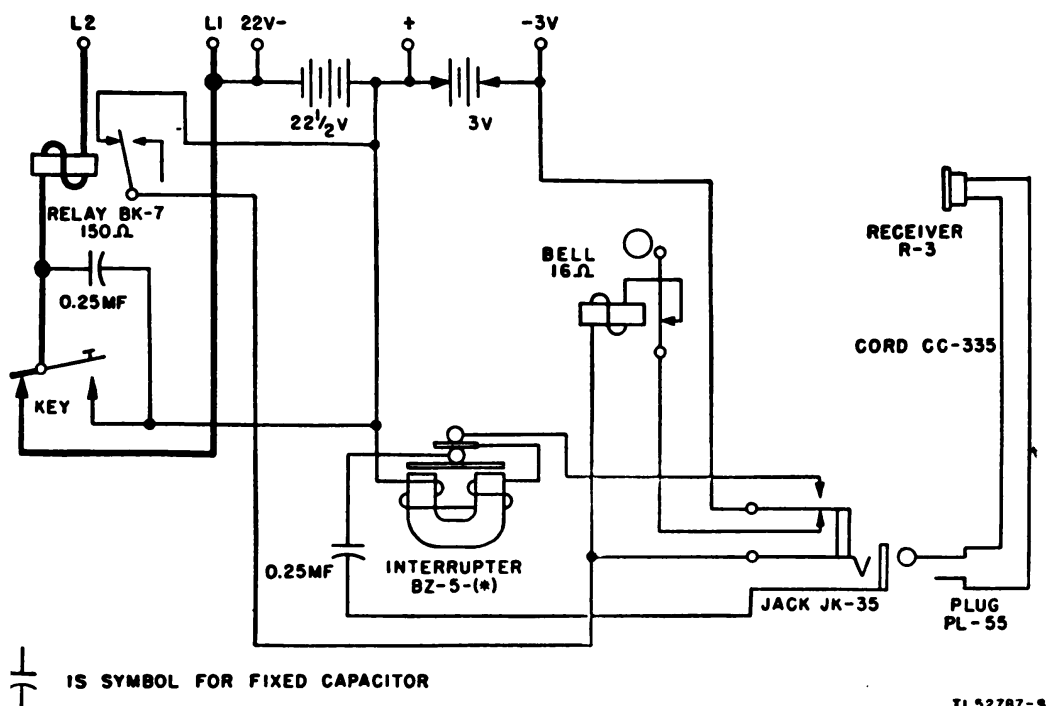

Figure 22. Line circuit, Telegraph Set TG-5.
a. LINE CIRCUIT. (1) The L2 binding post, relay winding, key, and L1 binding post are connected in series, and form the line circuit.
(2) Incoming current, flowing through terminal L2, the relay winding, rear contact of the key, and out through terminal L1, operates the relay, thereby closing a local circuit in the set. (See figs. 22 and 23.)